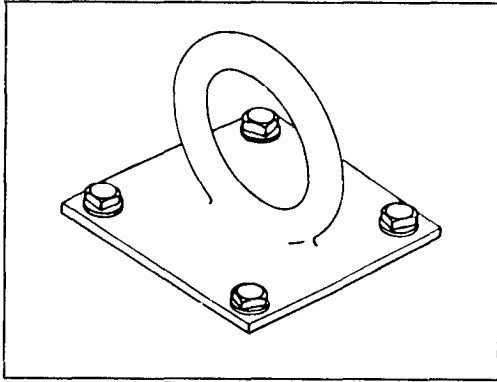

Figure 9-5. Pad Eye
e. Pad eyes (Figure 9-5). Pad eyes are metal rings mounted vertically on a plate to receive a ship's line. Spliced with thimble and shackle, they are used only for small craft.